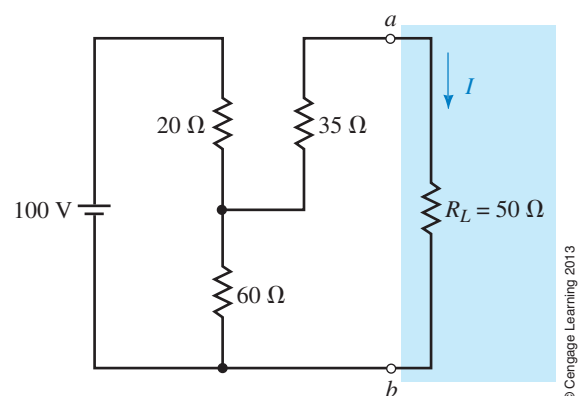

FIGURE 9-87
13. Refer to the circuit of Figure 9-87: